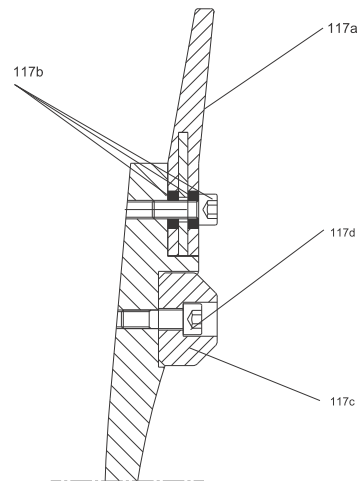

Fig. 92 Turbulence optimiser and discharge casing protector
If the turbulence optimiser or/and the discharge casing protectors are worn down or defect, we recommend to replace them. See fig. 92 for a more detailed view.
1. Loosen and remove the screw (pos. 117b).
2. Lift away the turbulence optimiser (pos. 117a). See fig. 92.
1. Loosen and remove the screw (pos. 117d).
2. Remove the discharge casing protector (pos. 117c). See fig. 92.